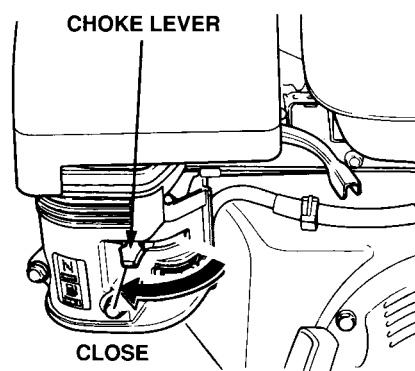

Figure 31. Choke Lever Closed
6. If the engine has started, slowly return the choke lever (Figure 31) to the **CLOSED** position. If the engine has not started repeat steps 1 through 5.